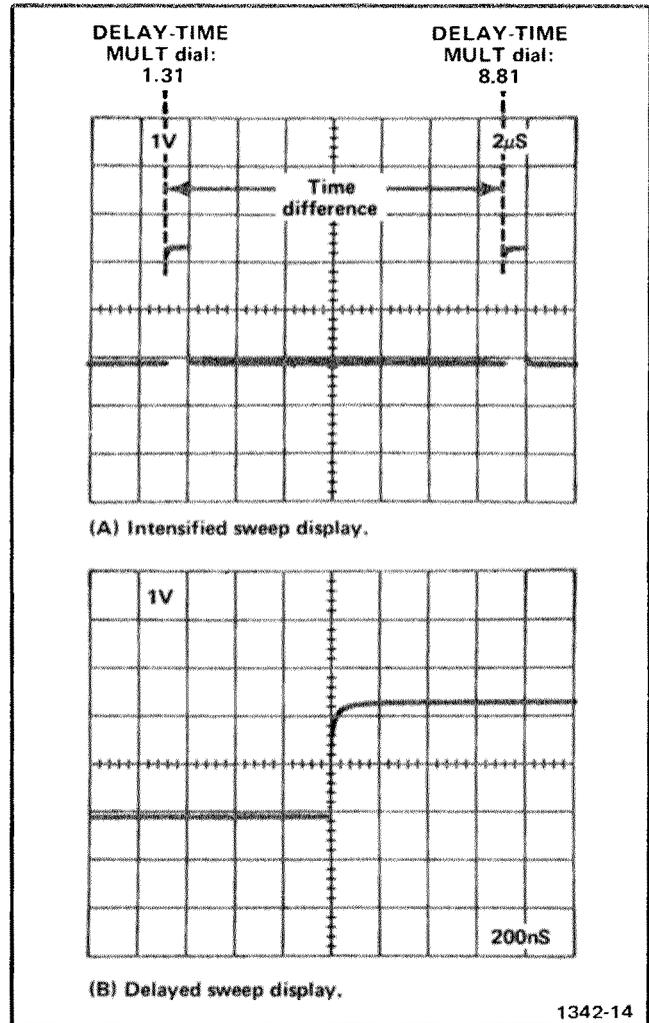

Fig. 2-13. Measuring time difference using delayed sweep.
**Example.** Assume the first dial setting is 1.31 and the second dial setting 8.81 with the TIME/DIV OR DLY TIME switch set to 2 ms (see Fig. 2-13).